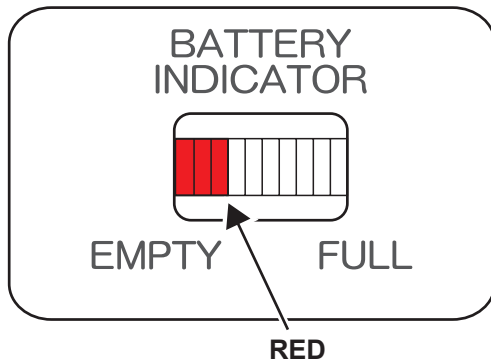

Figure 11. Battery Light Indicator
- When the battery charge indicator on the base shows a low charge (only red LEDs - Figure 11).
- The battery indicator shows only red (Figure 11).